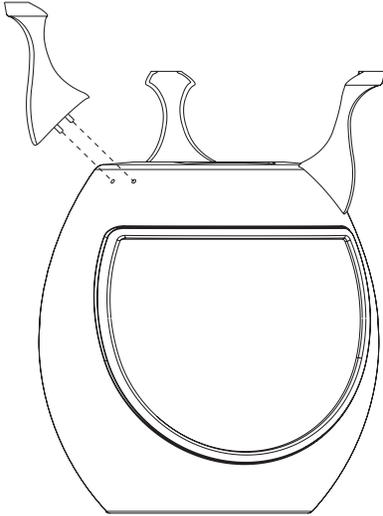

Figure 4
5. Remove washers and nuts from three legs. Install the three legs using the bolts, washers and nuts provided. Reach through the opening in the body casting to tighten the leg bolts securely. See Figure 4.